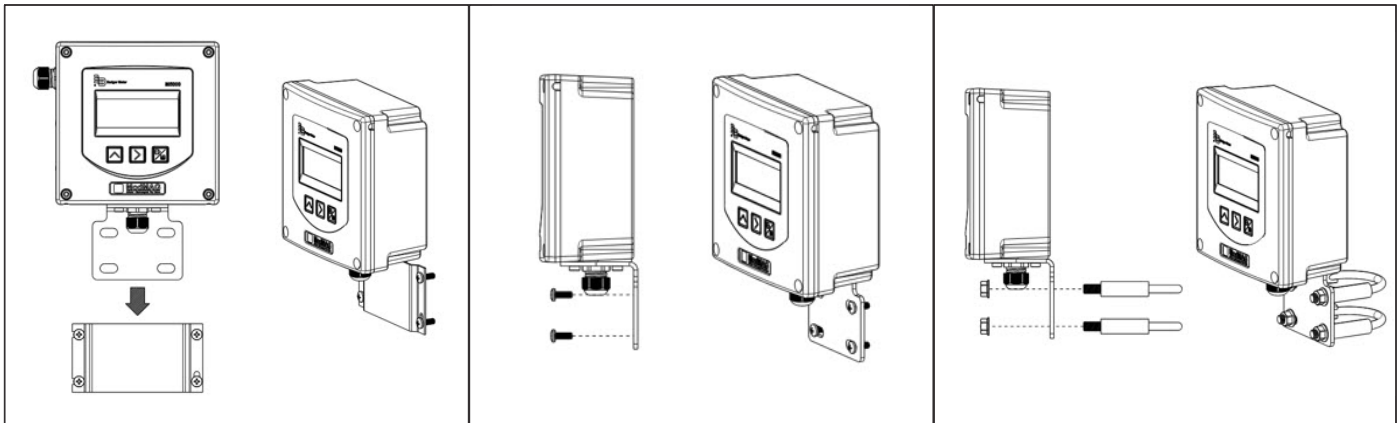

Figure 29: Transmitter wall mounting options: easy fix - slide in, direct wall mounting, pipe mounting
2. Push both cables through two different cable glands as shown in Figure 29.